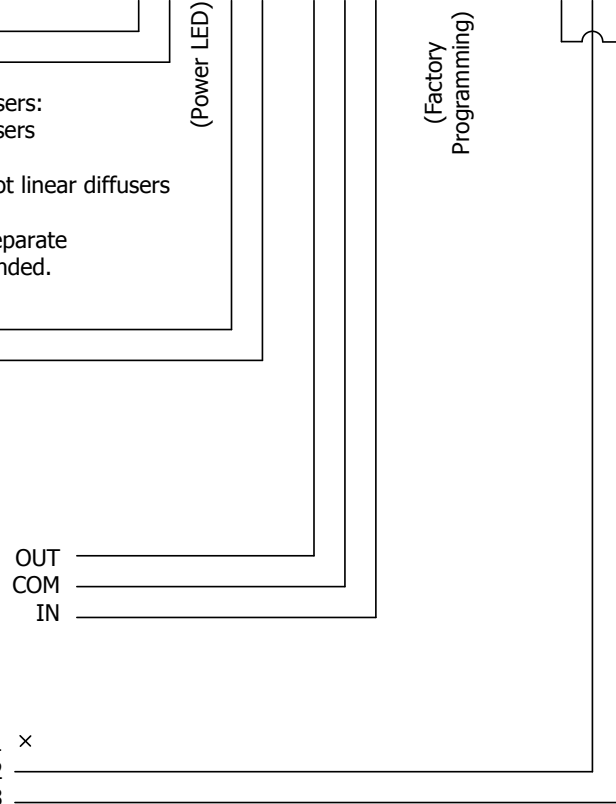

Fig. 10 – Wiring Diagram
Connect two wires from Acu-Zone terminals 2 and 3 (see the Acu-Zone heater wiring instructions) to the terminals (AUX HTR CTRL) on the auxiliary heat board; 2 to RTN, 3 to SW, and a jumper from HOT to SW (see Fig. 10 Wiring Diagram).
2. Check the incoming power at the diffuser board. Power across terminals 24VAC POWER (see Fig. 10 Wiring Diagram) should be 24VAC ±2VAC. If the power is out of tolerance:
3. If the green Power LED is not lit, then check the 500mA Fuse (see Fig. 10 Wiring Diagram).
12. Remove wires from terminals INTERNAL HEATER (see Fig. 10 Wiring Diagram) on the diffuser board. Measure resistance across the wires connected to the heaters. Resistance should be: